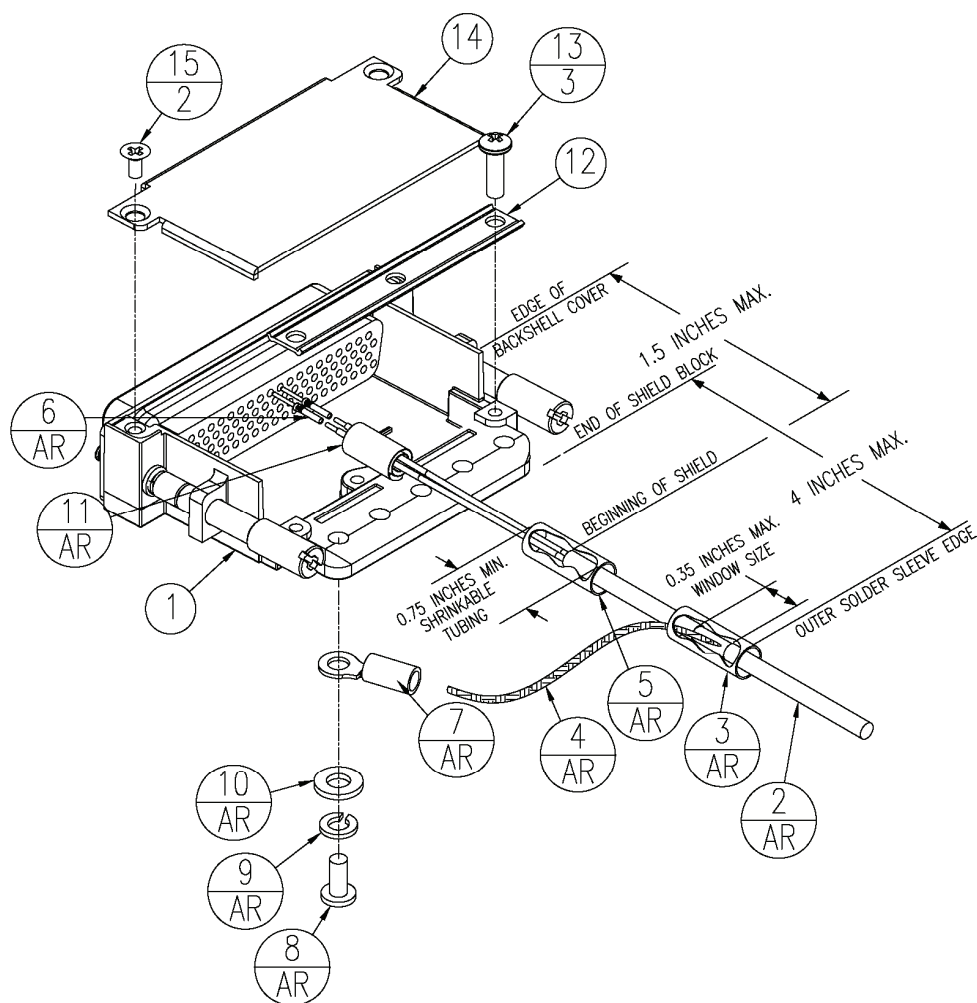

Figure 16-5 Shield Install onto a Jackscrew Backshell (78 pin example)
Table 16-4 Parts supplied for a Shield Block Installation (Figure 16-5)
Table 16-5 Parts not supplied for a Shield Block Installation (Figure 16-5)
In Figure 16-5, “AR” denotes quantity “As Required” for the particular installation.
7. Cut the Flat Braid (item 4) to a length that, with the addition of a ring terminal, will reach one of the tapped holes of the Jackscrew backshell (item 1) (Figure 16-5). An appropriate amount of excess length without looping should be given to the Flat Braid (item 4) to allow it to freely move with the wire bundle.